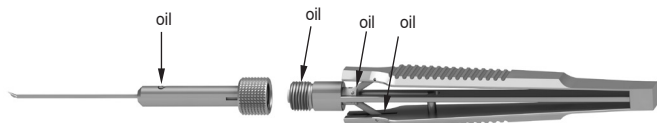

Fig. 4
- After cleaning and disinfection disassemble the cleaning adapter in reverse order (see fig. 4).
- Apply the instrument oil selectively on the area that needs it (fig. 4).